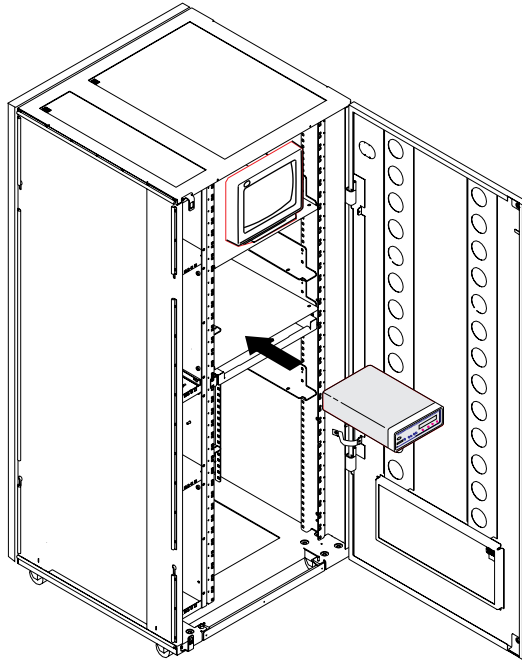

Figure 1-85. Installing the 7857 in the Controller Expansion
3. ____ Slide the 7857 in the controller expansion as shown in Figure 1-85 on page 1-75.